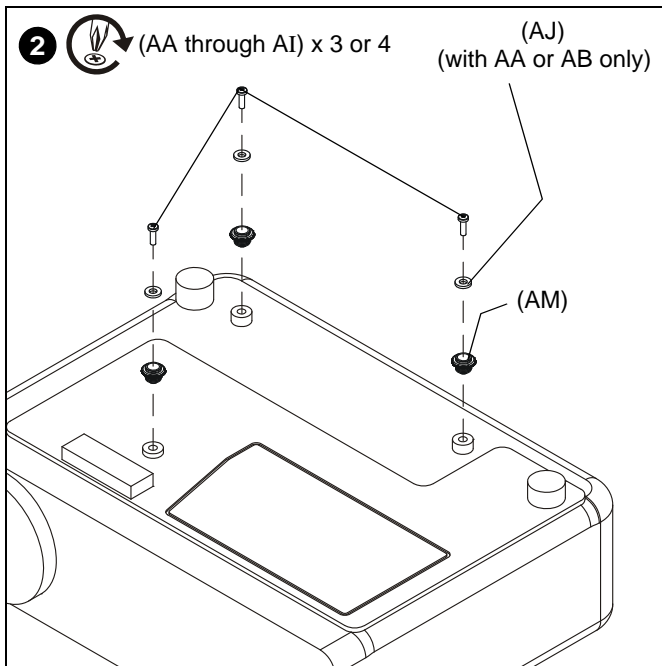

Figure 1
2. Insert screws through M4 flat washers (AJ), if required, screw adapters (AM) with height-adjustable nuts and into projector threaded inserts. (See Figure 1)